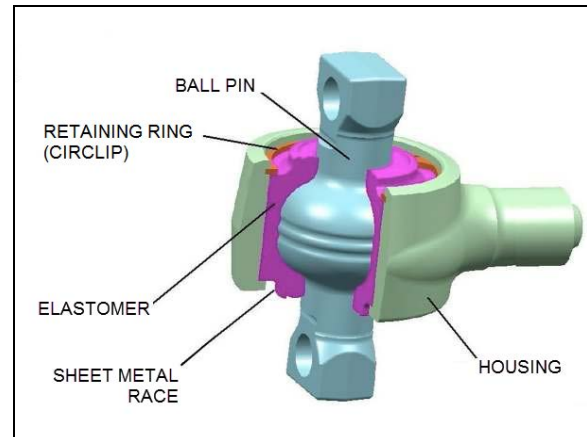

FIGURE 6: BALL PIN JOINT CONSTRUCTION
- Radial cracking of the external sheet-metal race (Figure 6)